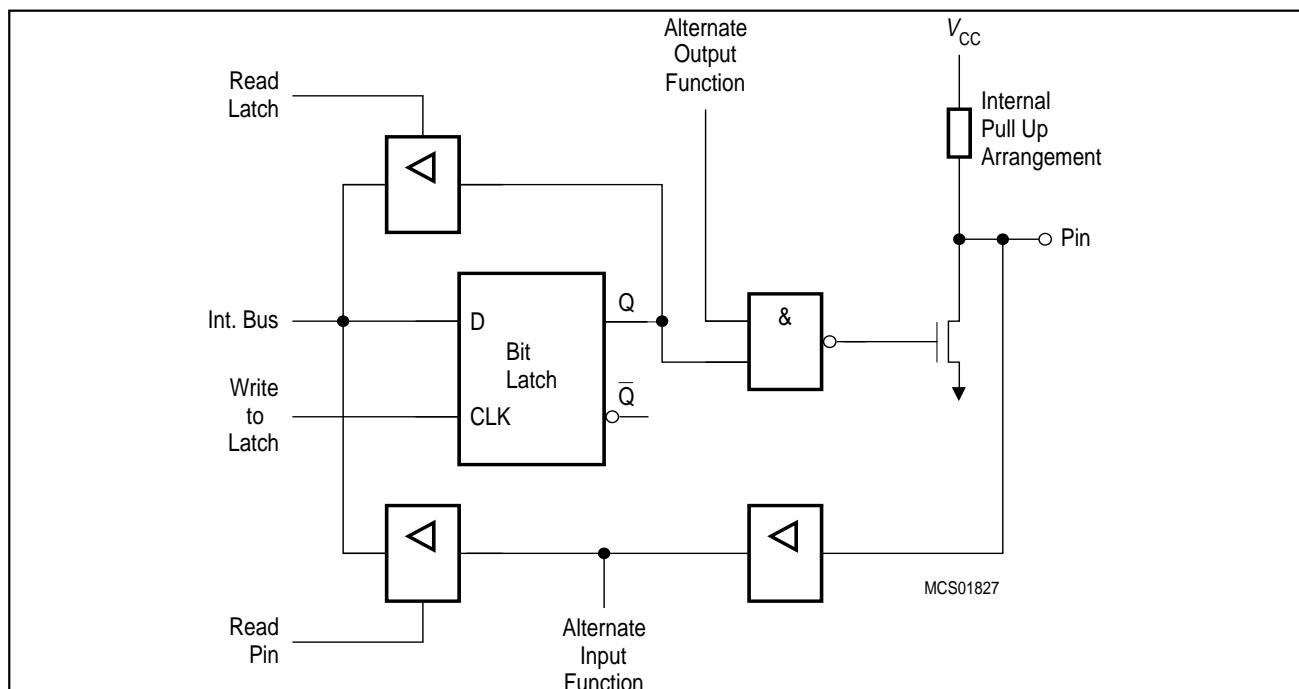

Figure 6-11
Figure 6-11 shows a functional diagram of a port latch with alternate function. To pass the alternate function to the output pin and vice versa, however, the gate between the latch and driver circuit must be open. Thus, to use the alternate input or output functions, the corresponding bit latch in the port SFR has to contain a one (1); otherwise the pull-down FET is on and the port pin is stuck at 0. (This does not apply to ports 1.0 to 1.4 and ports 5.0 to 5.7 when operating in compare output mode). After reset all port latches contain ones (1).